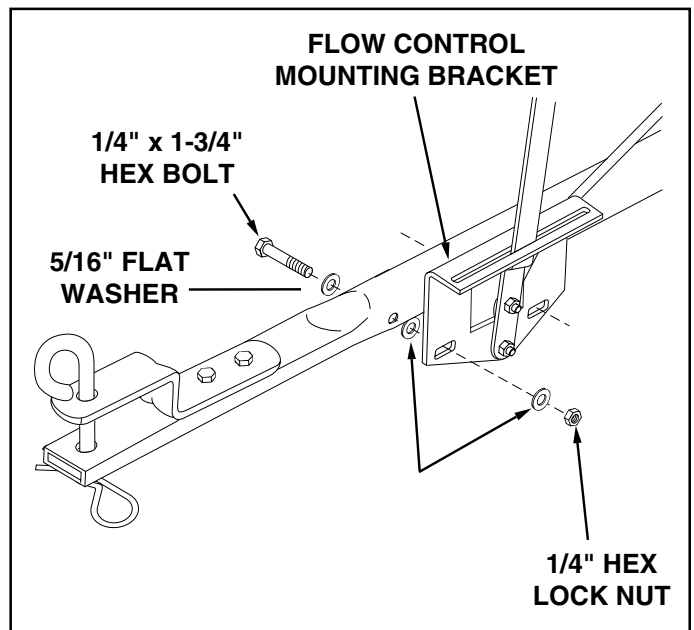

FIGURE 10
18. Assemble the flow control mounting bracket to the hitch tube using two 1/4" x 1-3/4" hex bolts, six 5/16" flat washers and two 1/4" hex lock nuts as shown in figure 10. **Do not tighten at this time.**